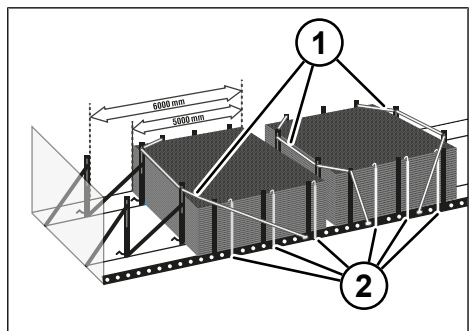

Fig. 8-38: Tie-down lashing of the steel mats
- ▶ If one steel mat package will only be loaded on the front position, brace the rear plug-in posts as well. Ensure that the lashing belts are above the corners of the load. Use edge protection (see "Fig. 8-38: Tie-down lashing of the steel mats", pg. 162).